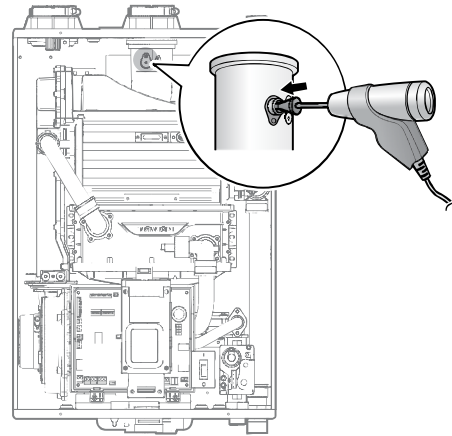

Figure 8. Insert the Analyzer
- Loosen the screw, rotate the plate and remove the gasket to access the emissions monitoring port as shown in Figure 8.
- Insert the analyzer into the port (Figure 8).